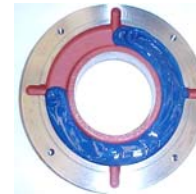

Figure 7.3: Outer bearing cap
- Fill up to ¾ of the inner and outer bearing cap deposits with the recommended grease (Figure 7.3) and lubricate